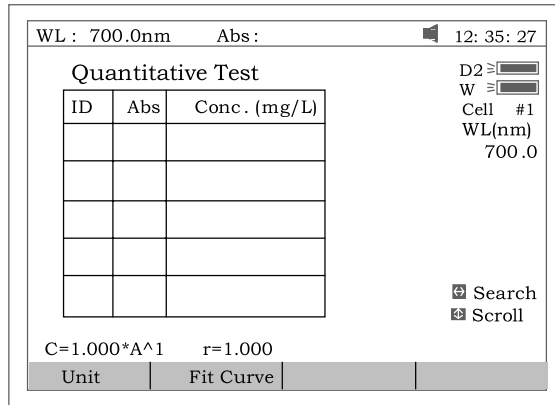
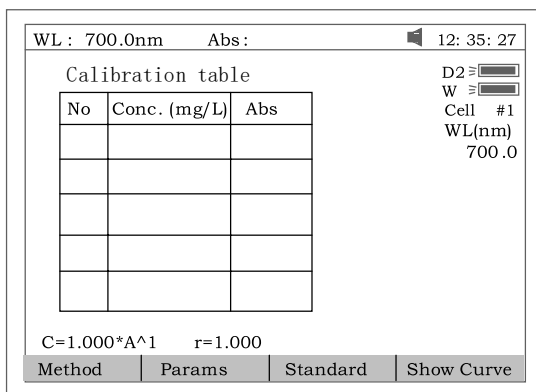
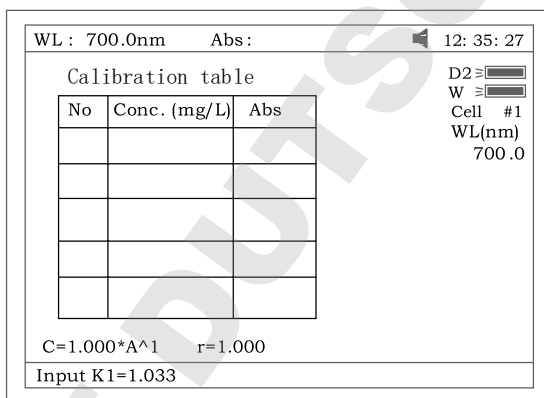
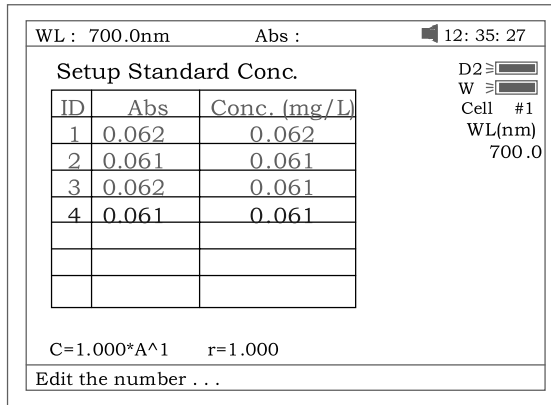

Fig 25
Fig 28
Fig 29
Fig 30
- Press **【2】** in Main Menu for “Quantitative” Test (Fig 25). Press **【ESC】** to exit.
Note: .If no automatic changer installed “cell #1” will disappear in Fig25.
3. Press **【F2】** in Fig 25 for more items to select .See Fig 28.
3.1 Press **【F1】** in Fig 28 to select fitting method. There are 4 methods for you to choose: Linear fit, linear fit through zero, square fit and cubic fit.
3.2 Press **【F2】** in Fig 28 to enter directly a known standard curve. Fig 29.
3.3 Press **【F3】** in Fig 28 to establish a standard curve by measuring a group of standard samples. See Fig 30.
See 3.2. For Fig 28 enter a known standard curve directly.
Note: All sample results must be taken in screen (Fig25).